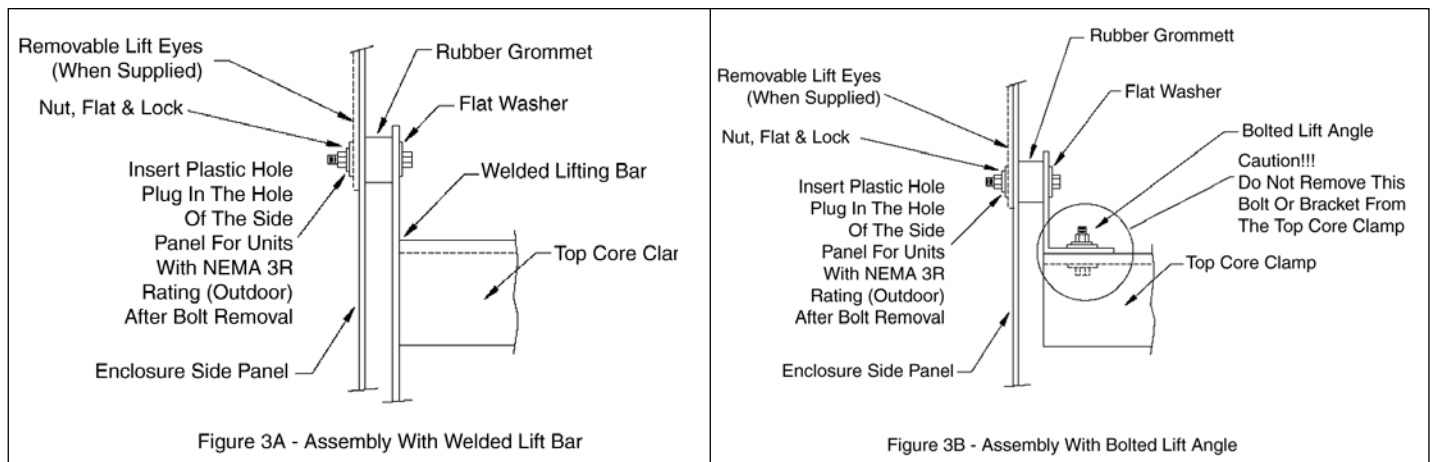

Figure 3 - Shipping Hardware Removal
If it is necessary to change taps or assemble a lug to a connection point, gently scrape coating from new connection surface using a sharp knife. Apply a light coating of grease from the tap jumper pad to the scraped surface and tighten connection using two wrenches as described above. Refer to Figure 3, Page 8 for instructions for the installation of cable lugs.
3. Remove shipping hardware at installation (See Figure 3).